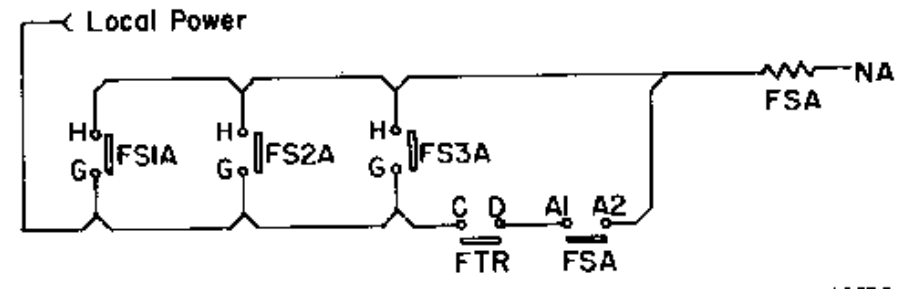
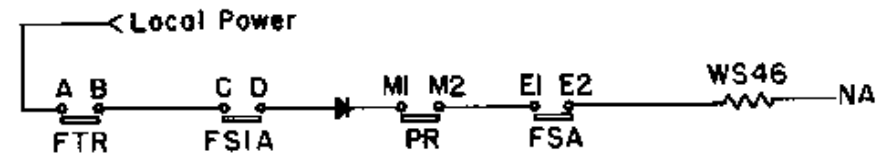
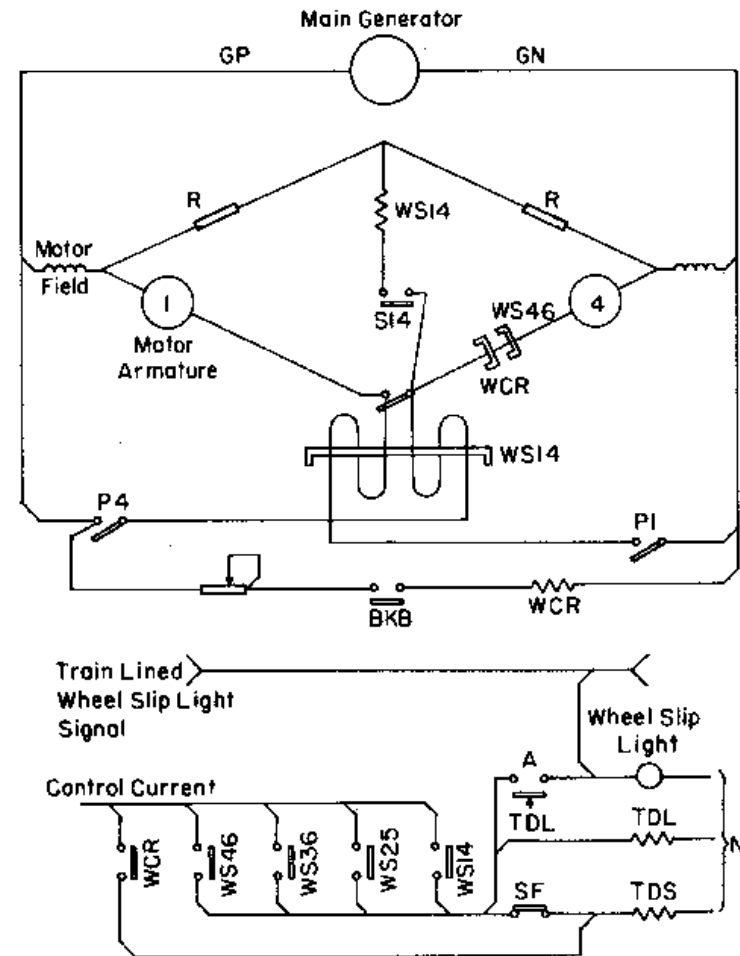

Fig. 6-15 -- Field Shunt Auxiliary Relay Holding Circuit
Fig. 6-18 - Simultaneous 6-Axle Wheel Slip Detection Circuit
Fig. 6-21 - Wheel Slip Detection Circuits, Simplified Diagram
8. FS1A interlock G-H, Fig. 6-15, closes to energize the field shunt auxiliary relay FSA. Pickup of FSA sets up the sequencing circuits for transition from series to series-parallel.
6. Contacts C-D of FTR opening drops out FSA, Fig. 6-15, and the N1-N2 contacts of FSA close to energize the series-parallel power contactor SP25 through the now closed P1-P2 contacts of SPR, Fig. 6-6.
6. Contacts C-D of FTR, Fig. 6-15, opening drops out FSA, and the P1-P2 contacts of FSA, Fig. 6-6, open to remove the shunt circuit from around PR contacts B1-B2. This de-energizes series power contactor S14.
6. The closing of FS1A interlock G-H, Fig. 6-15, picks up FSA. Closed E1-E2 contacts of FSA along with C-D interlock of FS2B and the M1-M2 contacts of PR set up the circuit for local control current to energize the wheel slip relay WS46 should FTR pick up again, Fig. 6-18. FTR pickup after the final step of transition would indicate train overspeed or 6-axle simultaneous slip.
WHEEL SLIP DETECTION CIRCUITS, Fig. 6-21
Fig. 6-21 is a simplified circuit diagram showing only a portion of the wheel slip detection devices; however, the explanation for WS14 is applicable to WS25 and WS36 if the
Notice on Fig. 6-21 that the voltage coil of WCR is connected across the main generator during dynamic braking (on units so equipped). The circuit is calibrated for pickup of WCR if generator voltage increases due to hot motor fields. Similar use is also made of the voltage coil of WS46. See Fig. 6-18 and related text for an explanation.
Also note on Fig. 6-21 that the wheel slip light circuit contains a delayed pickup contact of time delay relay TDL. This prevents the wheel slip light from coming on unless the wheel slip is of long duration (approximately 4 seconds). However, a trainlined wheel slip light signal from a unit not equipped with TDL will cause the light to blink under usual wheel slip conditions.